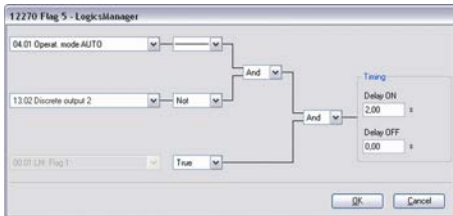

Fig. 167: LogicsManager function "Flag 5"
- ➔ Configure the LogicsManager function "Flag 5" as shown in ( Fig. 167).